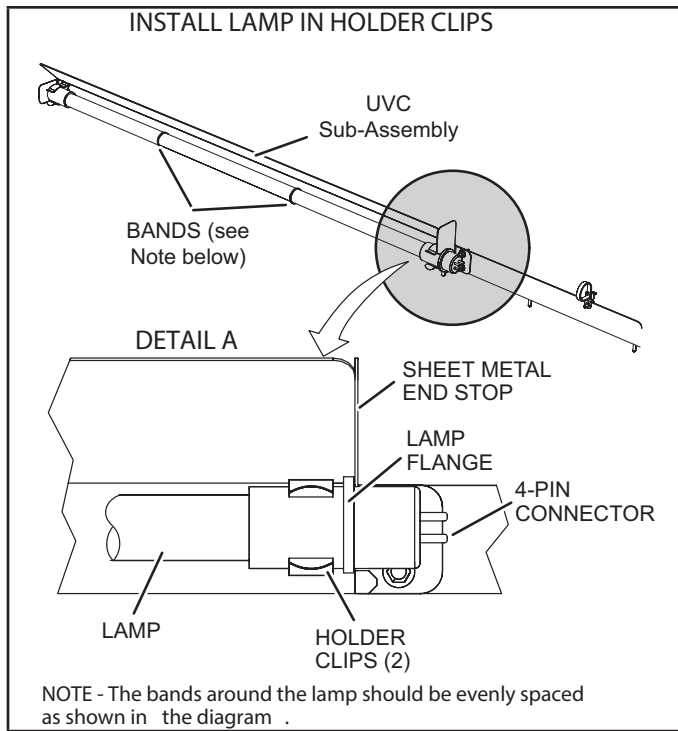

FIGURE 43
- 6 - Wear cotton gloves or use a cotton cloth when handling the new lamp. Place the new lamp in the holder clips of the UVC assembly. Verify that the lamp flange at the connector end is sandwiched between the lamp holder clip and the sheet-metal end stop (see FIGURE 43).